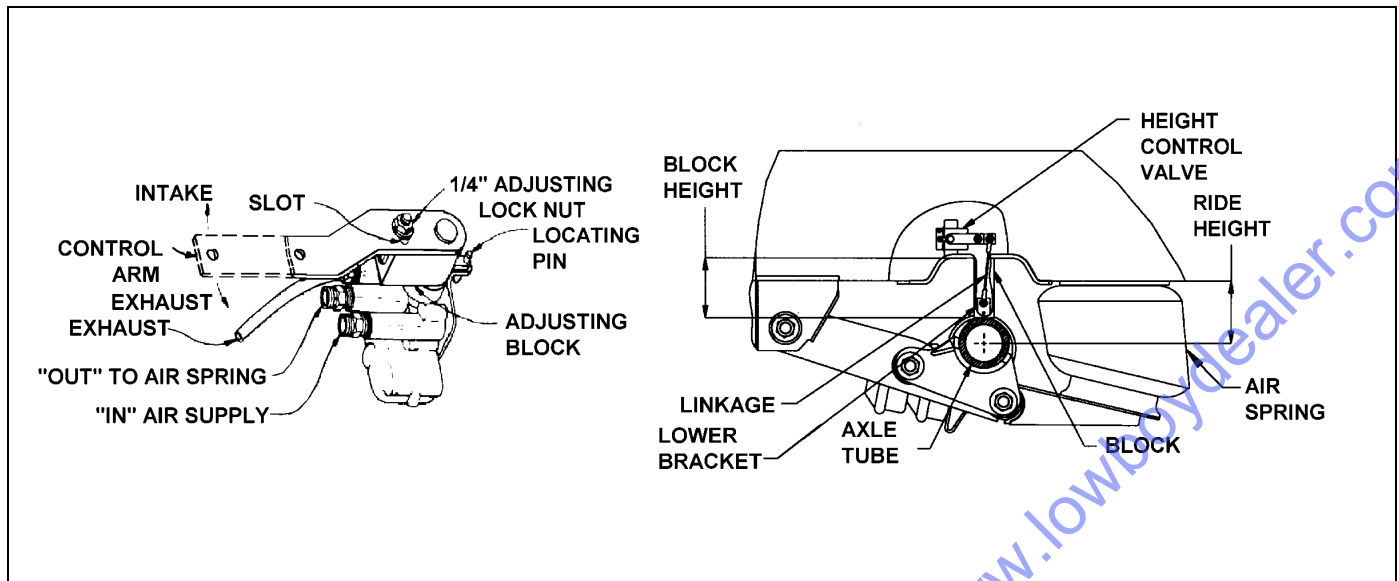

Figure 4-4: Air Ride Height Adjustment
(See Figure 4-4 for parts identification).
- Disconnect linkage at the control arm and raise control arm to the "up" position, raising the trailer until a block can be placed between axle tube and undercarriage frame (See Figure 4-4.)
- Loosen the 1/4" adjusting lock nut located on the adjusting block, allowing the control arm to move approximately 1 inch. Move the adjusting block until holes align, then insert locating pin (See Figure 4-4.)